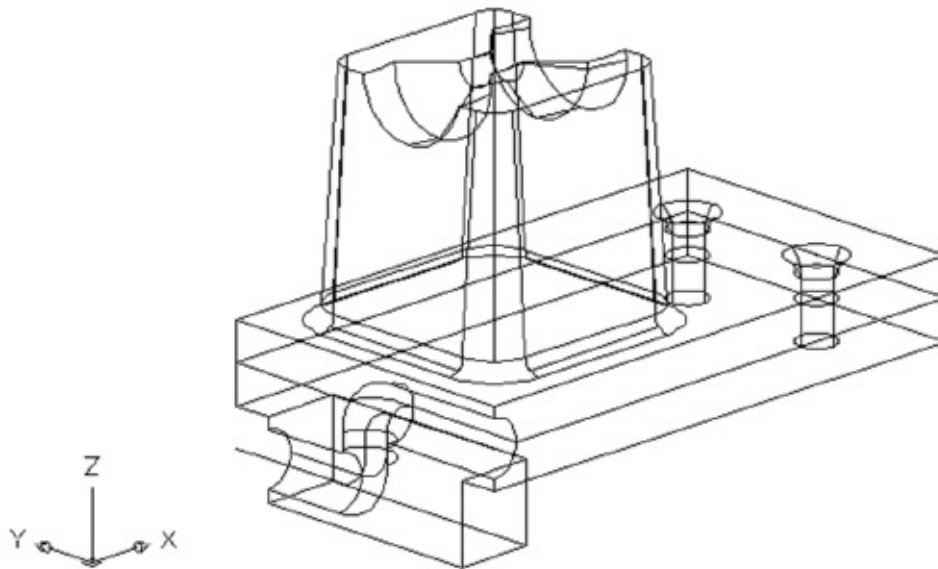

FIGURE 22.19 The chamfered edges
7. At the Select an edge or [Loop]: prompt, click the top edges of both holes and then press ↵. When the Chamfer command has completed its work, your drawing looks like Figure 22.19.